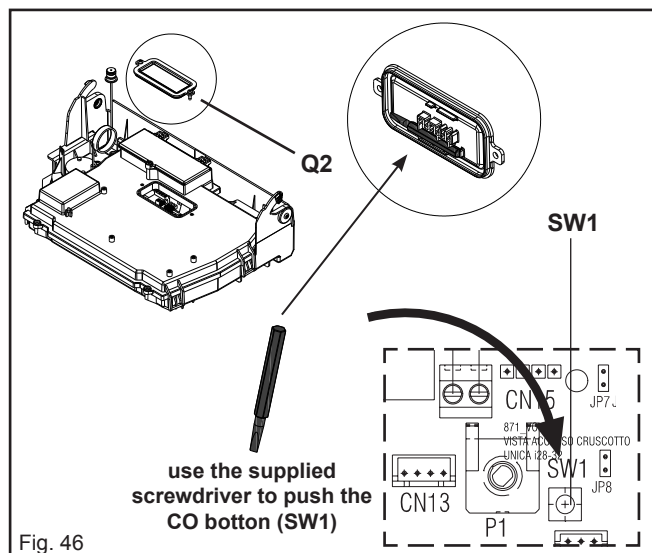

Fig. 46
6.20.5 DIVERTOR VALVE ASSEMBLY (fig. 46)
Have access to the printed circuit board, locate and open the closing plug on the dash board (Q2), locate and press the CO button (see fig. 46 pos. SW1). Press the button the number of times according to the function requirement as per 7.3.1.
Disconnect any external controls from terminal plug (CN5 fig. 46), and insert a link-wire between the two wires at the 'TA' connections.